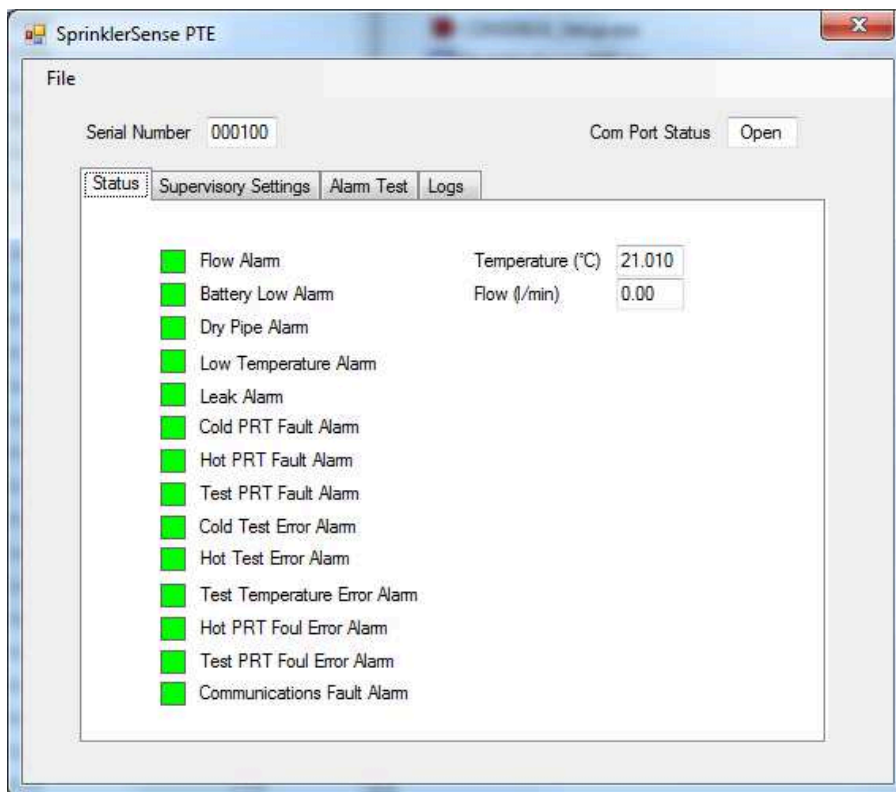

Figure 3
- The PTE will then start communicating with the SprinklerSense unit and display its status as in Figure 3.
- Once running, the PTE will show the current status of the SprinklerSense SPDB30/90 flow switch, as in Figure 3. The list on the left shows all of the possible installation problems and self-tested errors that can be detected. If any of these errors have been detected this will be indicated by a red box. Here you can also view the serial number of the flow switch and the current temperature of the water in the pipe. If any flow is present this will also be shown.